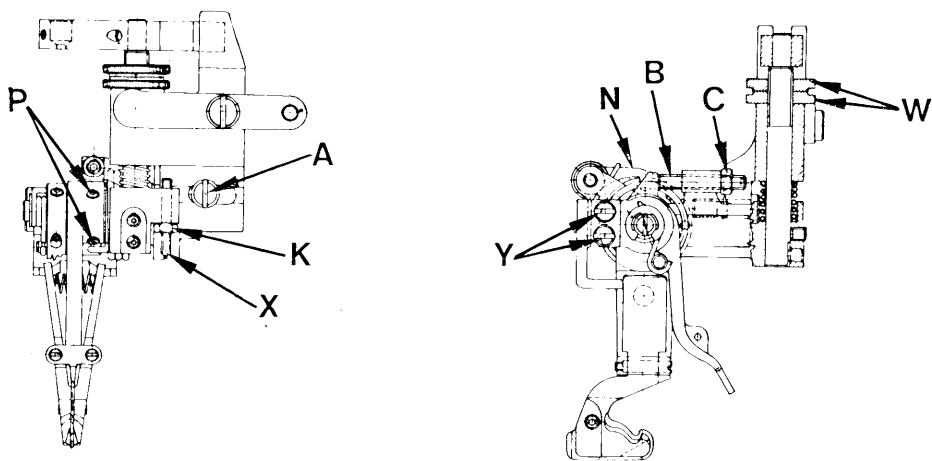

Fig. 26
- To space the working position of the automatic guide from the material tongue guide, adjust stop screw B and nut C (fig. 26).
- To adjust the automatic return to the work position of the guide with the material introduced first between the cups and then between the fins, it is necessary to adjust the flexible cable (connected to the left knee control or with the foot pedal) so that the pawl N, guide turned over, must not fall into the groove. While with the material introduced first between the fins and then between the cups, it is necessary to adjust the flexible cable so that the pawl N, guide turned over, must fall into the groove (fig. 26).